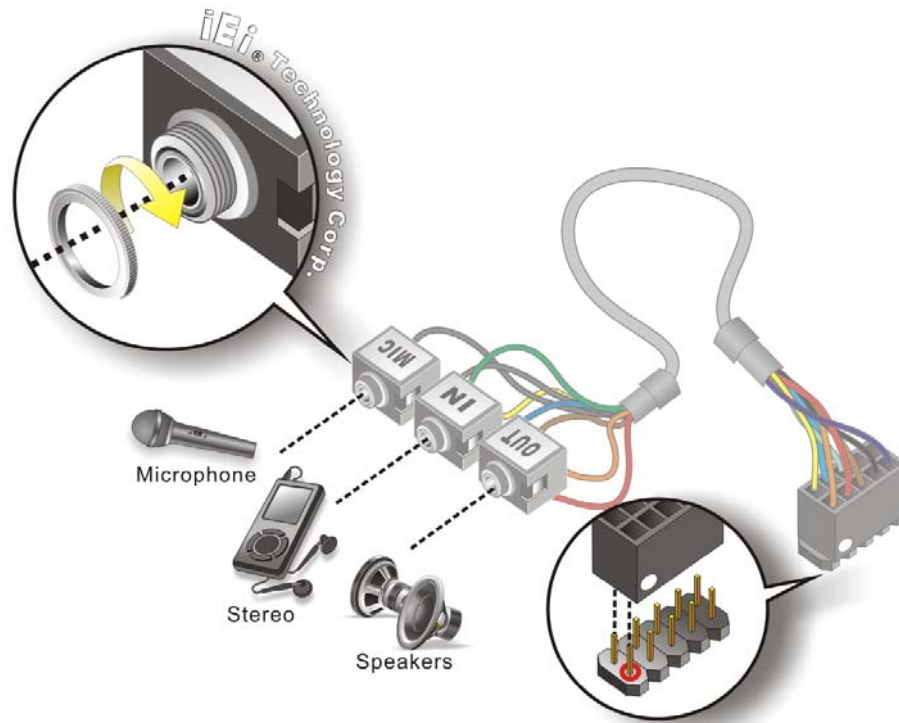

Figure 4-11: Audio Kit Cable Connection
- Step 2:** **Align pin 1.** Align pin 1 on the on-board connector with pin 1 on the audio kit connector. Pin 1 on the audio kit connector is indicated with a white dot. See **Figure 4-11**.